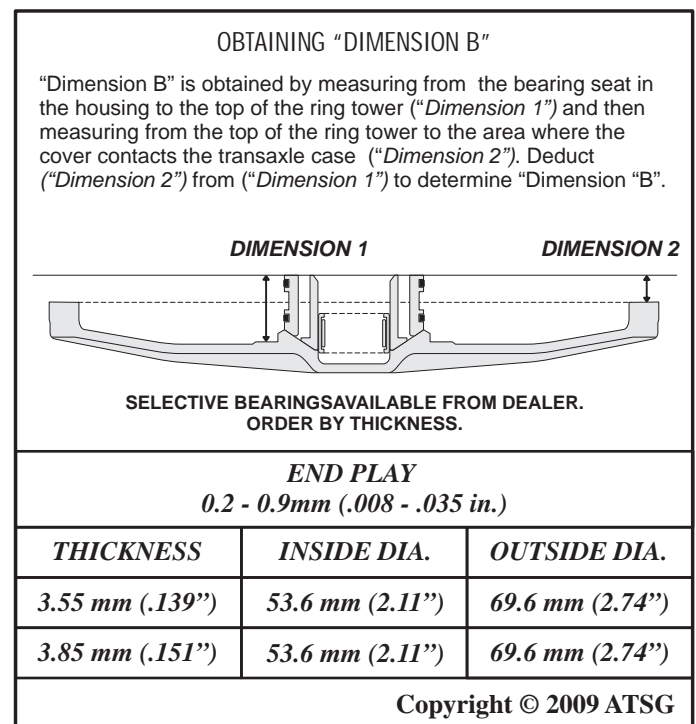

Figure 171
50. Measure the distance from the bearing seat in the rear cover to the top of the ring tower as shown in Figure 171. This is ("Dimension 1").
51. Measure from the top of the ring tower to the area where the rear cover contacts the transaxle case. This is "Dimension 2". Deduct ("Dimension 2") from ("Dimension 1") to determine "Dimension B". Next, deduct "Dimension A" from "Dimension B". Using this number, choose the appropriate thrust washer from the chart below to obtain proper end play as shown in Figure 171.